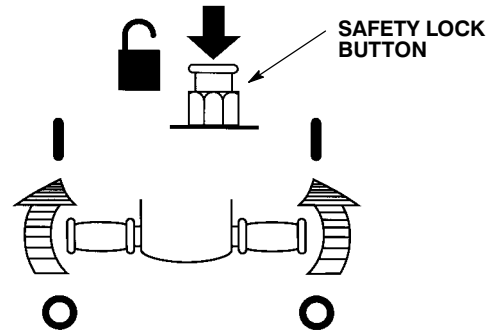

FIG. 6
2. Start machine by pressing safety lock button and turning twist grips forward. Release thumb from safety lock button once machine starts (Figure 6).